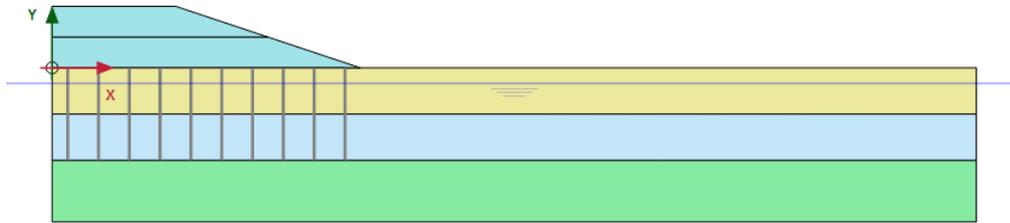

Figure 115: Configuration of the phase 3
5. In the **Staged construction mode** activate the second part of the embankment. The model for phase 3 is shown in Figure 115 (on page 136).